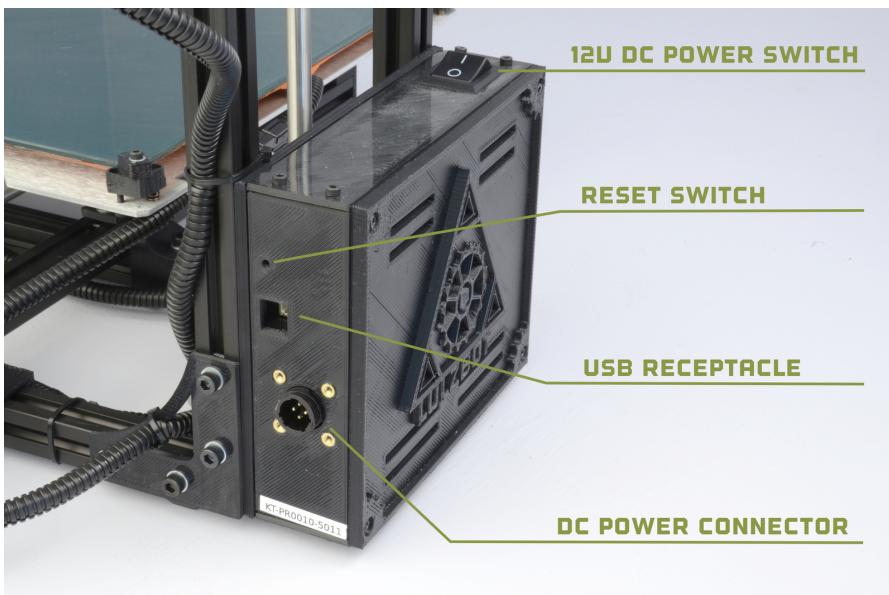

Figure 1.9: Power supply and USB receptacles
9. Locate the power supply and USB receptacles along the back of the TAZ electronics enclosure (Fig. 1.9, page 20). Locate the power supply and the included AC power cable (Fig. 1.10, page 21). Locate the DC power cable plug on the power supply. Connect the DC locking plug into the DC connector on the TAZ electronics enclosure (Fig. 1.11, page 21). The plug is keyed which may require rotating the plug until the keys line up and the plug can be pushed in. Once you have